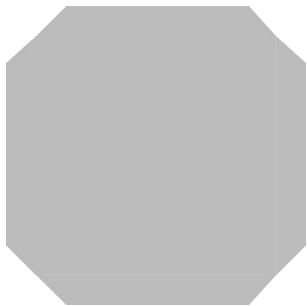
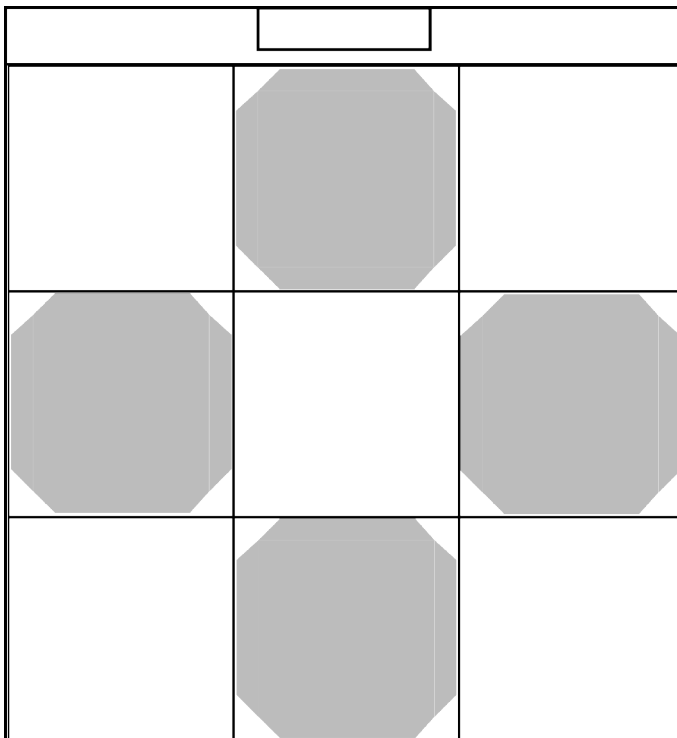

Fig. 3. A foil contact that forms one half of the air gap switch for each button.
Fig. 4. The foil contacts that will make the bottom half of the air gap switches. All four contacts will be wired together.
9. Clip the corners of the foil squares as shown in **Fig. 3**. Using spray adhesive, apply four of the foil squares to the recessed areas that will become the dance pad buttons. See **Fig. 4** for a diagram of the completed process. See notes at the end of this document for information on sheet metal contacts.